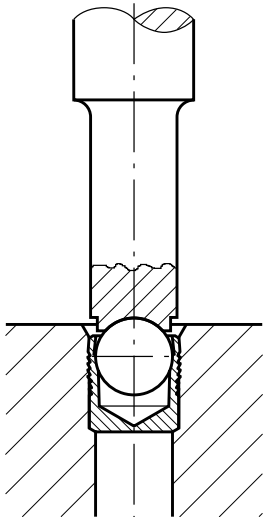

Fig. 2
- › The ball can now be pressed in until the top of the ball is below the edge of the sleeve (Fig. 2 and 3). Corresponding approximate values for stroke S as well as the dimensions X are from the Table below.